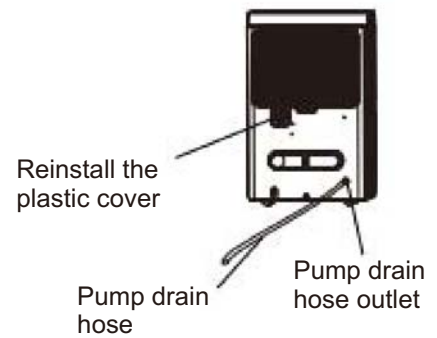

Fig.11
- Remove the continuous drain hose from the unit and install the plastic cover to the continuous drain hose outlet of the unit by clockwise rotation.(See Fig.11)
- Resert the pump drain hose into the pump drain hose outlet for depth of 15mm at least (See Fig.11), then lead the water hose to the floor drain or a suitable drainage facility.